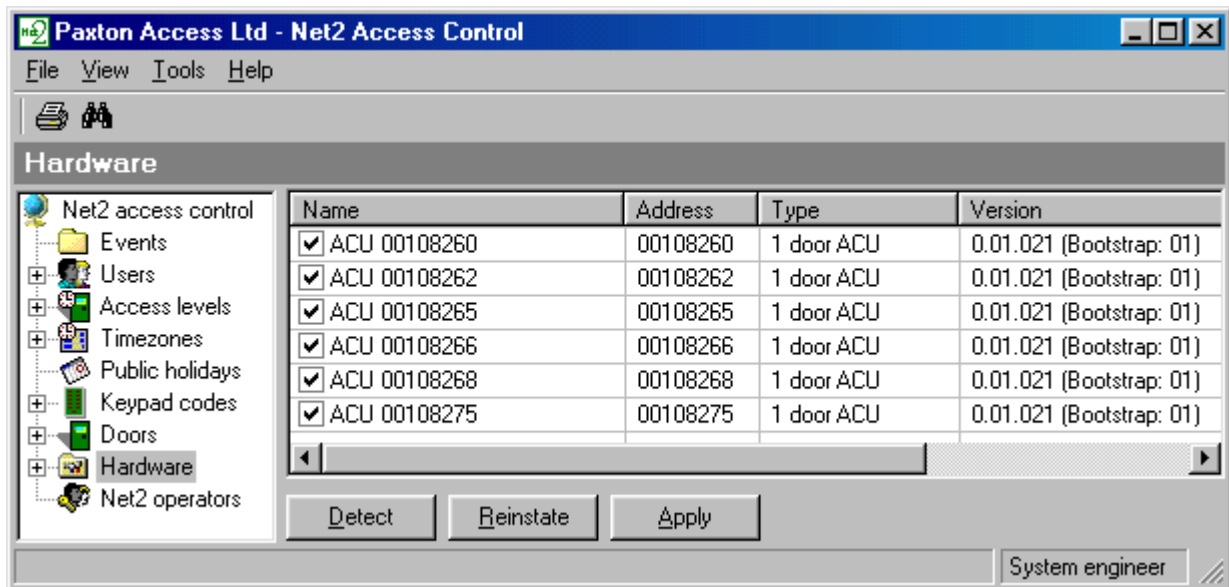

Figure 5.1
3. Confirm that the validity of user tokens is the same on the PC as on the system. Reinstate the database to confirm this. This is done by pressing the **Reinstate** button in the Hardware screen, see figure 5.1.